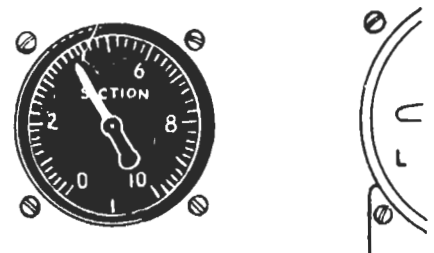

Figure 58 — Suction Gage Reading
- c. Suction gage should read 3.75 to 4.25 in. Hg. (See figure 58.)